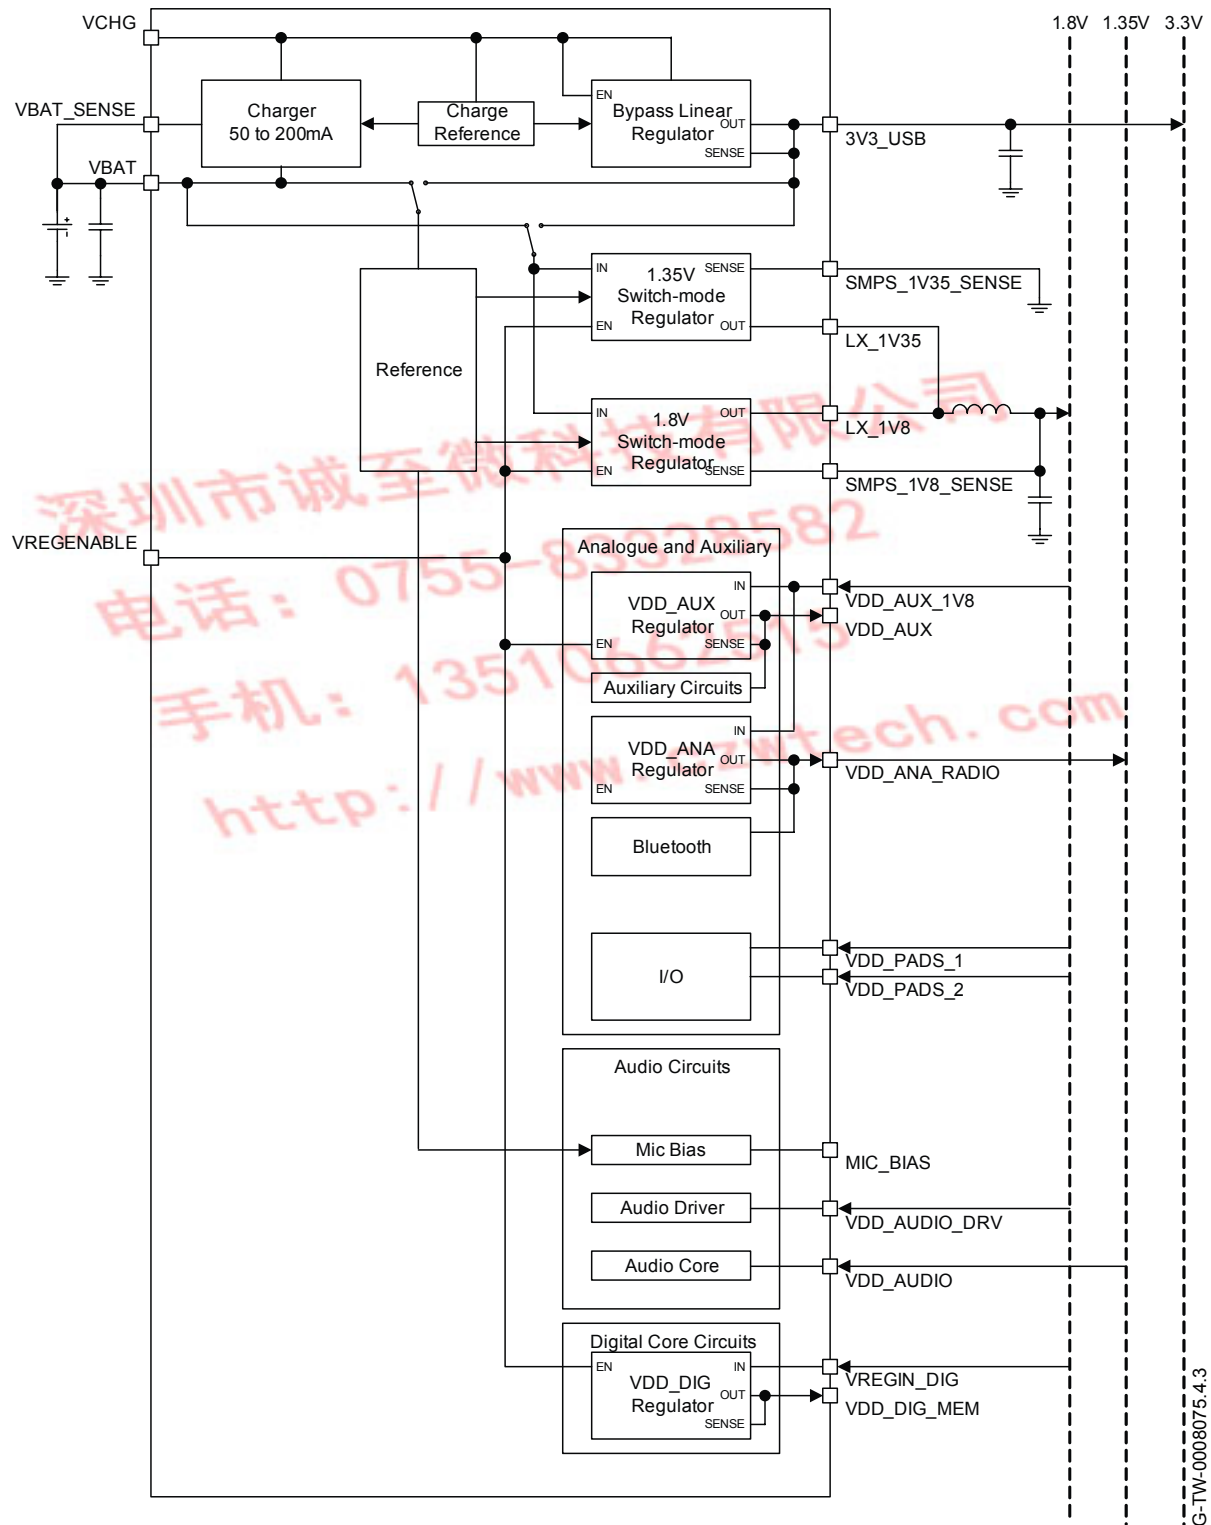

Figure 10.2: 1.80V Parallel-supply Switch-mode System Configuration
- A 1.80V parallel-supply rail system for higher currents using the 1.80V and 1.35V switch-mode regulators with combined outputs, see Figure 10.2.